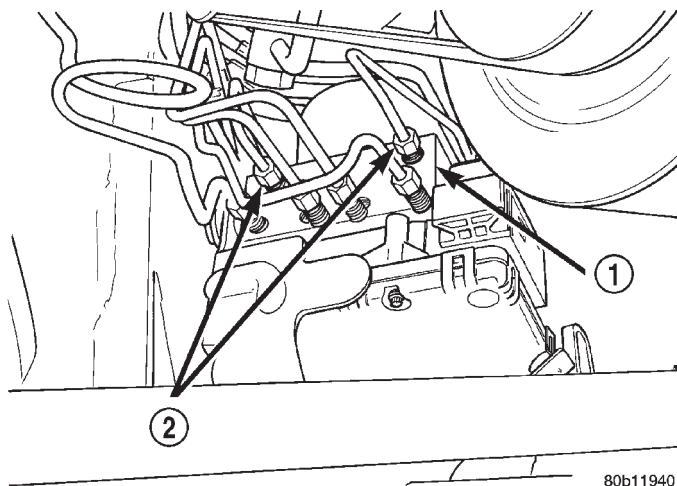
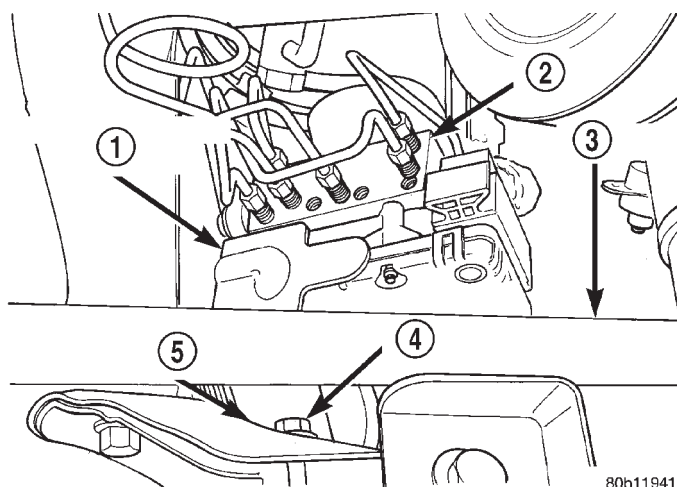

Fig. 30 Master Cylinder Brake Tube Connections To HCU
Fig. 31 HCU Mounting Bracket Front Bolt
(10) Remove the primary and secondary brake tubes coming from the master cylinder from the HCU inlet ports (Fig. 30).
(11) Remove the bolt (Fig. 31) attaching the front leg of the HCU mounting bracket to the front suspension crossmember.
(6) Install the bolt (Fig. 31) attaching the front leg of the HCU mounting bracket to the front suspension crossmember.
(7) Tighten the 3 bolts mounting the HCU mounting to the front suspension crossmember to a torque of 28 N·m (250 in. lbs.).
(8) Install the primary and secondary brake tubes coming from the master cylinder in the HCU inlet ports (Fig. 30).